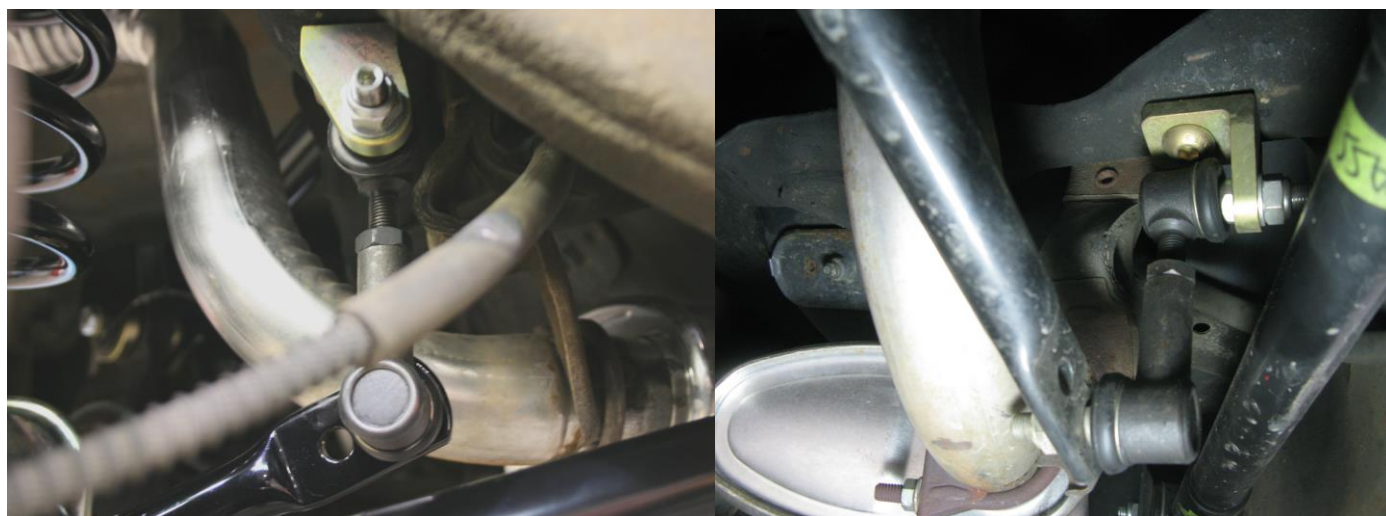

Figure 2 - Upper Mounting Bracket Orientation (Passenger Side Shown)
3. Install the upper link mount brackets on the crossmember. See Figure 2 for reference on the correct placement of the bracket. Use the provided 3/8"-24 x 1-1/4" L Hex Head Bolts inserted from the bottom along with the 3/8"-24 Nylock Nut and 3/8" AN washer. Torque these bolts to 35 ft-lbs.